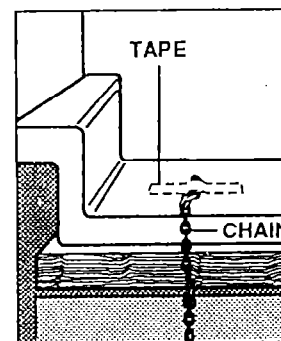

Fig. 4
3) Temporarily attach the loose end of the chain to the rear of the countertop with the tape from the packaging. See Fig. 4.